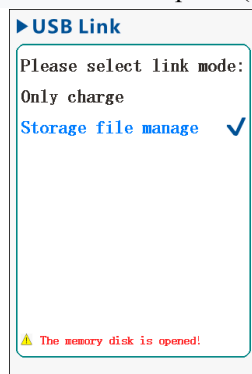

Figure 86
Data download" operation can be directly connected to micro-USB data cable in any interface (mobile phone charging cable is also available), then can realize the connection between the instrument and the computer (as shown in figure 86)
- (1) When the instrument is turned on and enters the detection interface, please use micro-USB data cable to connect the USB port of the instrument and the USB port of the computer. After connecting, the instrument displays the interface of "USB connection" (as shown in figure 86) and defaults to "Storage file manage" mode;